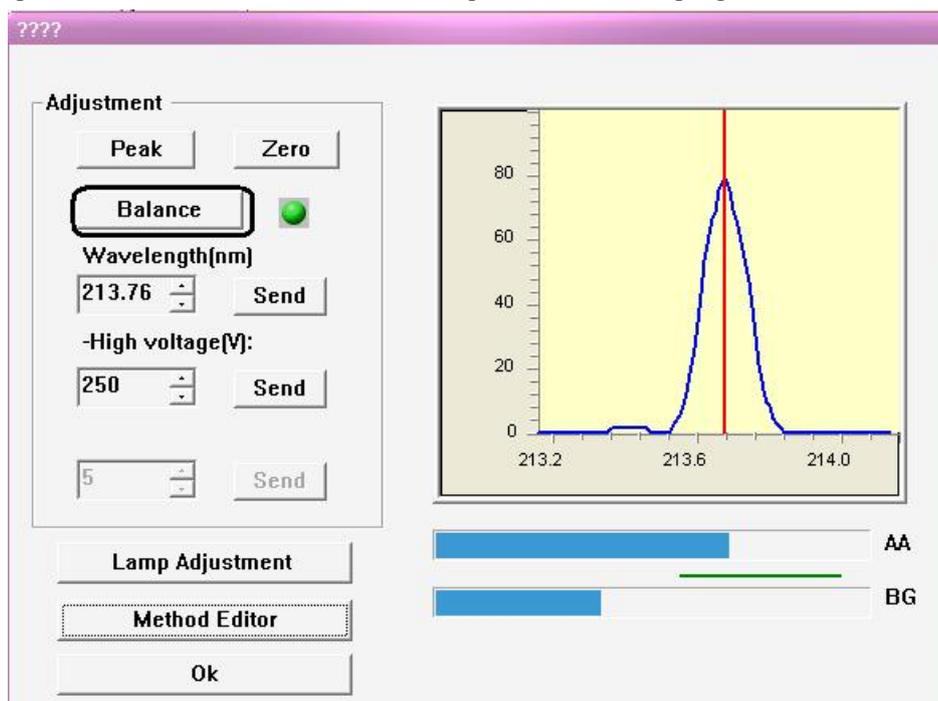

Figure 6-16
7. After this,press **【Balance】** to balance the D2 lamp and element lamp,figure 6-16